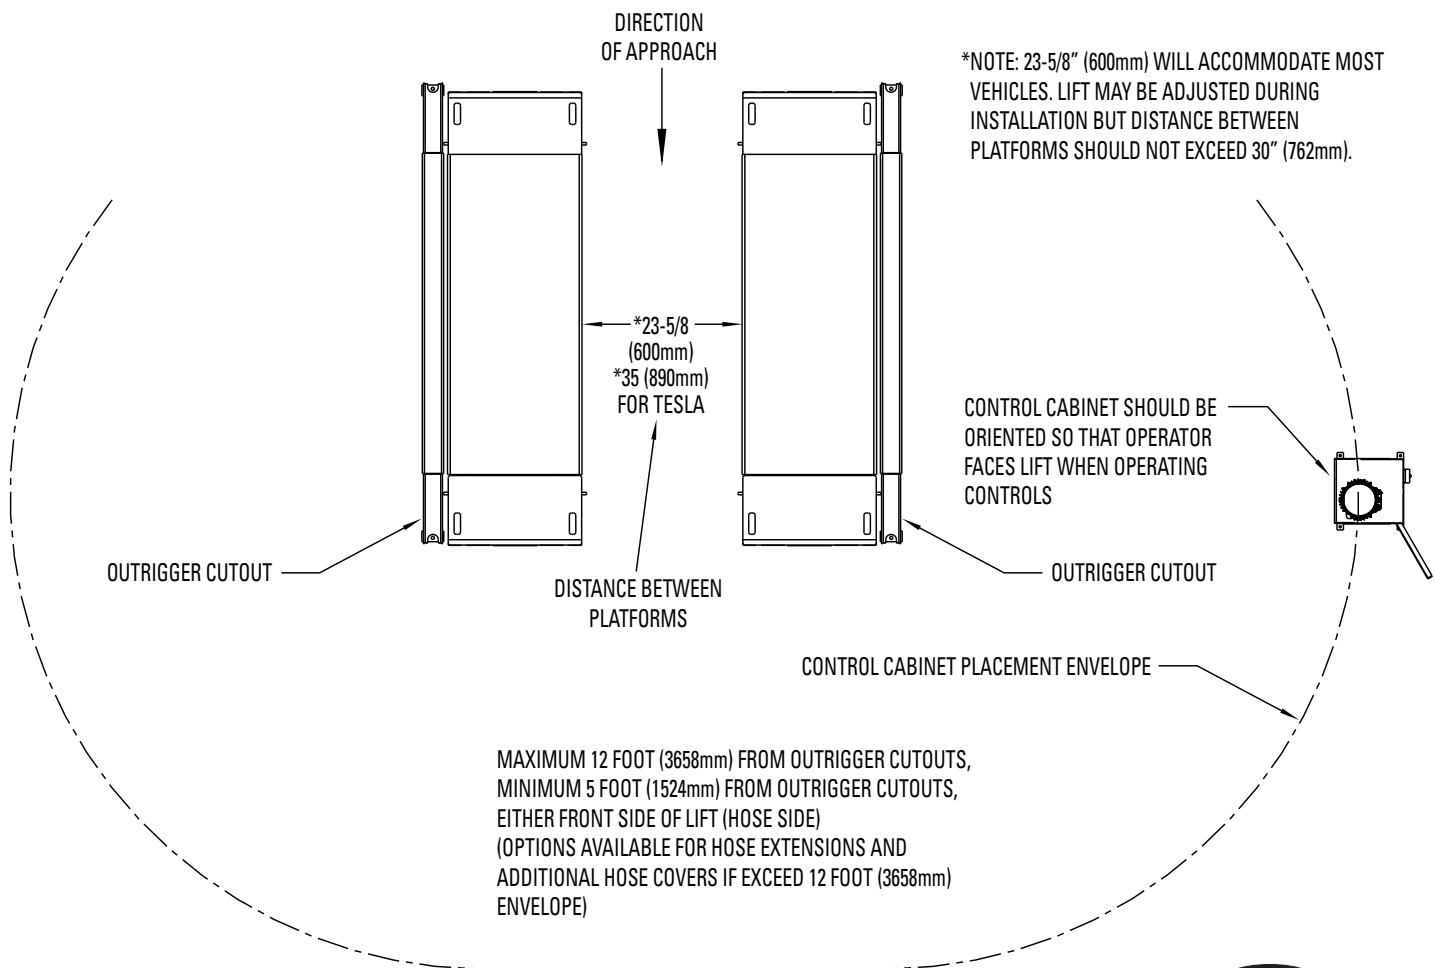

Fig. 3
Place the control cabinet in the approximate location (do not anchor), Fig. 3. Relocating the control cabinet further away than the standard distance will require the installer to provide suitable hydraulic hoses. Additional hose covers will also be needed if installing the control cabinet at a further distance than the standard distances in surface mount configurations. Hydraulic hoses should be 1/4" (6mm) min. ID with a min. working pressure of 4000 psi (27579 kPa) with #6 JIC Swivel Female fittings. Extension Hose Kits available.
Place platforms and control cabinet as shown in Fig. 3 for surface mount or flush mount applications.
DO NOT anchor any components at this time. The control cabinet should be located on the opposite end of vehicle approach, as shown in Fig. 3. Operator should be in a position to notice any misalignment of lifting pads or vehicle during operation. Rotary Lift does not recommend placing the control cabinet in a different location orientation and doing so would be the responsibility of the installer and/or end user.
1. The control cabinet includes three removable covers for hydraulic and air line routing, Fig. 3.
2. Route air lines from lift to control cabinet panel as desired. See Fig. 3, Fig. 3a and Fig. 3b.